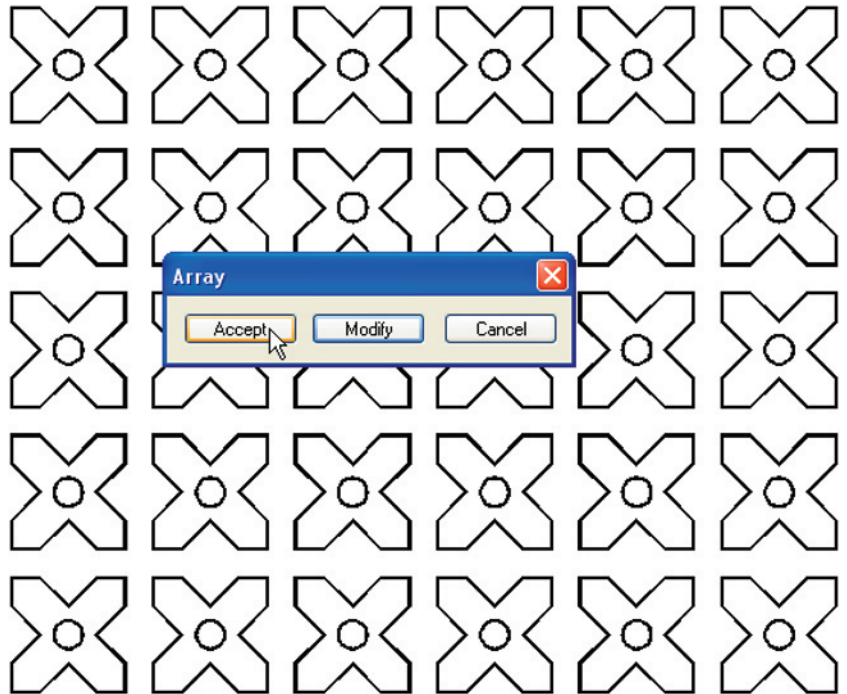

Fig. 5.18 First example – **Array**
First example – Rectangular Array (Fig. 5.18)
5. Click the **Preview**< button. The dialog disappears and the array appears with a warning dialog in the centre of the array (Fig. 5.18).